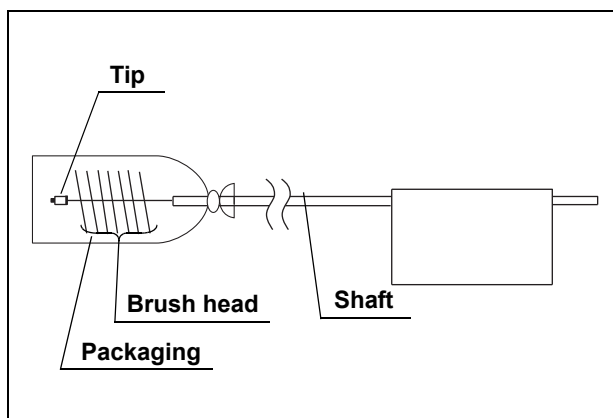

Figure 7.16
1. Remove the packaging immediately before use (see Figure 7.16).